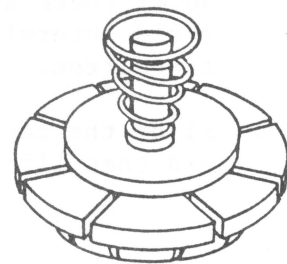

FIGURE 6
5. Remove the collet hub assembly (Fig. 6); remove the spring and washer from the collet hub. (Remove the spring carefully, taking care not to stretch it.)